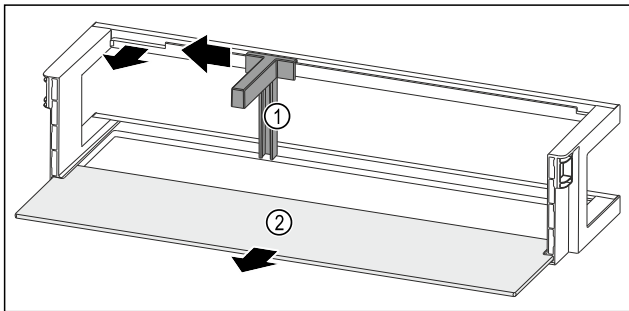

Fig. 199 Door rack with bottle holder and shelf
- ▶ Slide the bottle holder Fig. 199 (1) to the side as far as the recess.
- ▶ Remove the bottle holder Fig. 199 (1).
- ▶ Remove the shelf Fig. 199 (2).